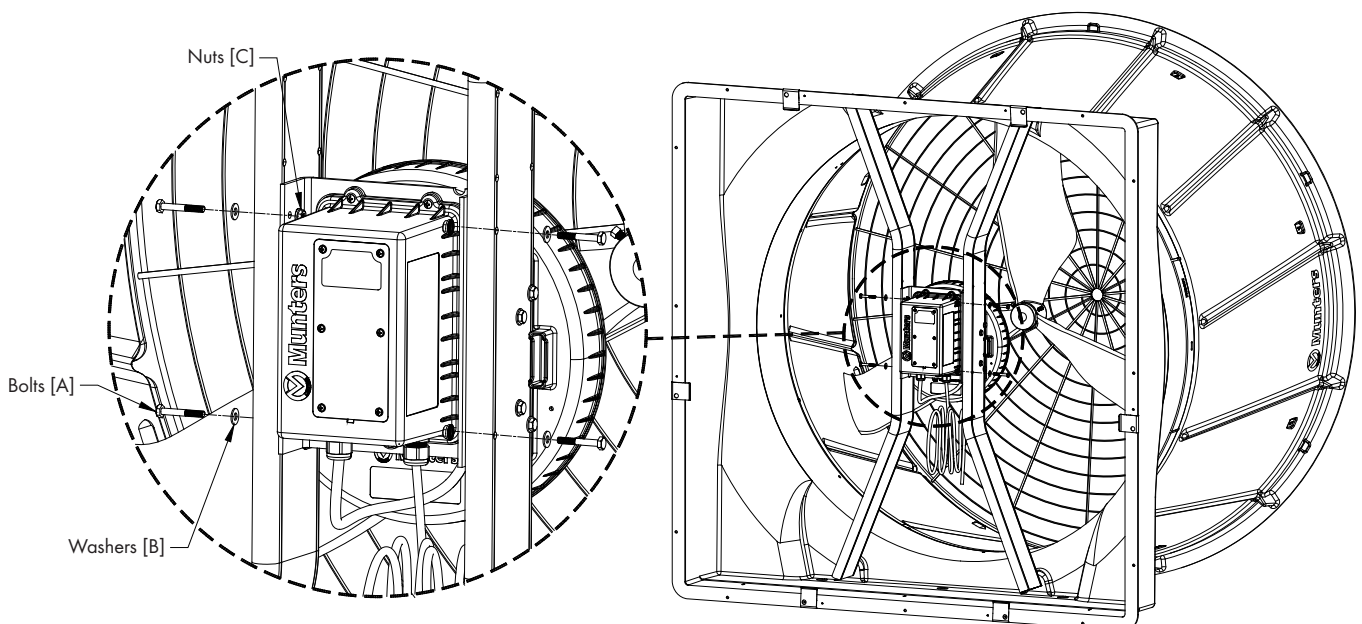

Figure 9B
Slide the controller between the struts so that the 2 holes in each strut line up with the holes in each side of the controller bracket and fasten with (4) Bolts [A], Washers [B] and Nuts [C]. See Figure 9B.